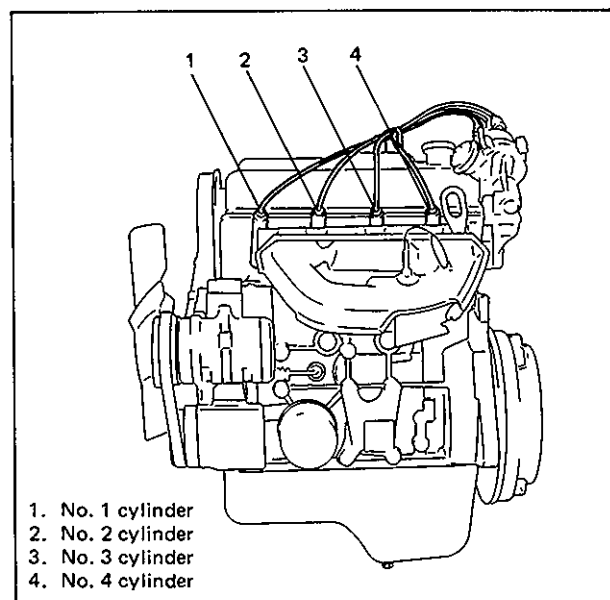

Fig. 6-1 Cylinder Numbers
- Throughout this manual, the four cylinders of the engine are identified by numbers; No. 1, No. 2, No. 3 and No. 4 as counted from crankshaft pulley side to flywheel side. Refer to Fig. 6-1.